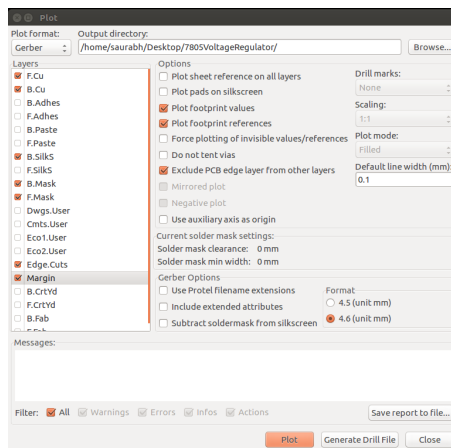

Figure 12.22: Plot Window before generating gerber files
3. Select F.Cu, B.Cu, B.Silks, F.Mask, B.Mask, Margin and Edge.Cuts from the Layers on the left side of the Plot window as shown in Fig. 12.22.